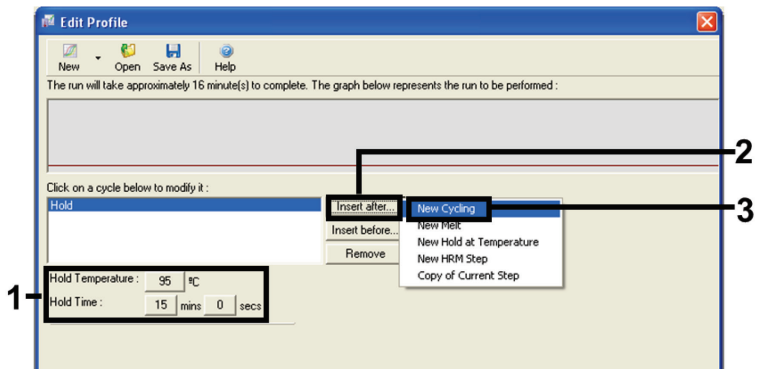

Figure 5. Initial incubation step at 95°C.
7. Set the value in the **Hold Temperature** field to **95°C** and the value in the **Hold Time** to **15 mins 0 secs**. Click **Insert After**, then select **New Cycling** (Figure 5).